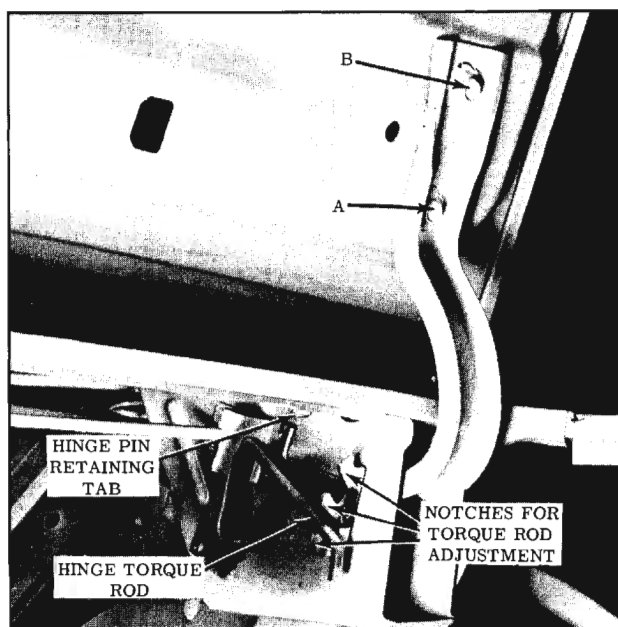

Fig. 16-300 Back Door Hinge and Torque Rod
3. With aid of a helper to hold lid, remove lid attaching bolts "A" and "B" (Fig. 16-300) at both hinge straps and remove rear compartment lid.
1. To adjust compartment lid forward or rearward or from side to side in body opening, loosen hinge strap attaching bolts "A" and "B" (Fig. 16-300) on both sides of lid, adjust lid as required, then tighten bolts.
- a. To raise front edge of lid, place shim(s) between lid inner panel and forward portion of one or both hinge straps at "A". (Fig. 16-300)
- b. To lower front edge of lid, place shim(s) between lid inner panel and rear portion of one or both hinge straps at "B". (Fig. 16-300)
The amount of effort required to open and close the rear compartment lid is determined by the position of the torque rods in the notches on the inboard face of the hinge boxes. (Fig. 16-300) If the torque rod is located in the lowest notch, the effort required to open the lid is the greatest and the amount of effort required to close the lid is the least. If the torque rod is located in the top notch, the amount of effort required to open the lid is the least and the amount of effort to close the lid is the greatest.
3. Scribe location of hinge strap on lid inner panel and remove bolts "A" and "B" (Fig. 16-300) securing hinge strap to lid.